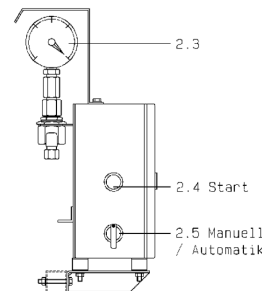

Figure 5.1.3
- Set the selector switch MANUAL/AUTOMATIC (Fig. 5.1.3, Pos. 2.5) to "MANUAL"
- Press the Start button (Fig. 5.1.3, Pos. 2.4).
- Set the selector switch MANUAL/AUTOMATIC (Fig. 5.1.3, Pos. 2.5) to "MANUAL".
- On the version with pressure and dosing monitoring (option) press the start button (Fig. 5.1.3, Pos. 2.4) for a short moment.